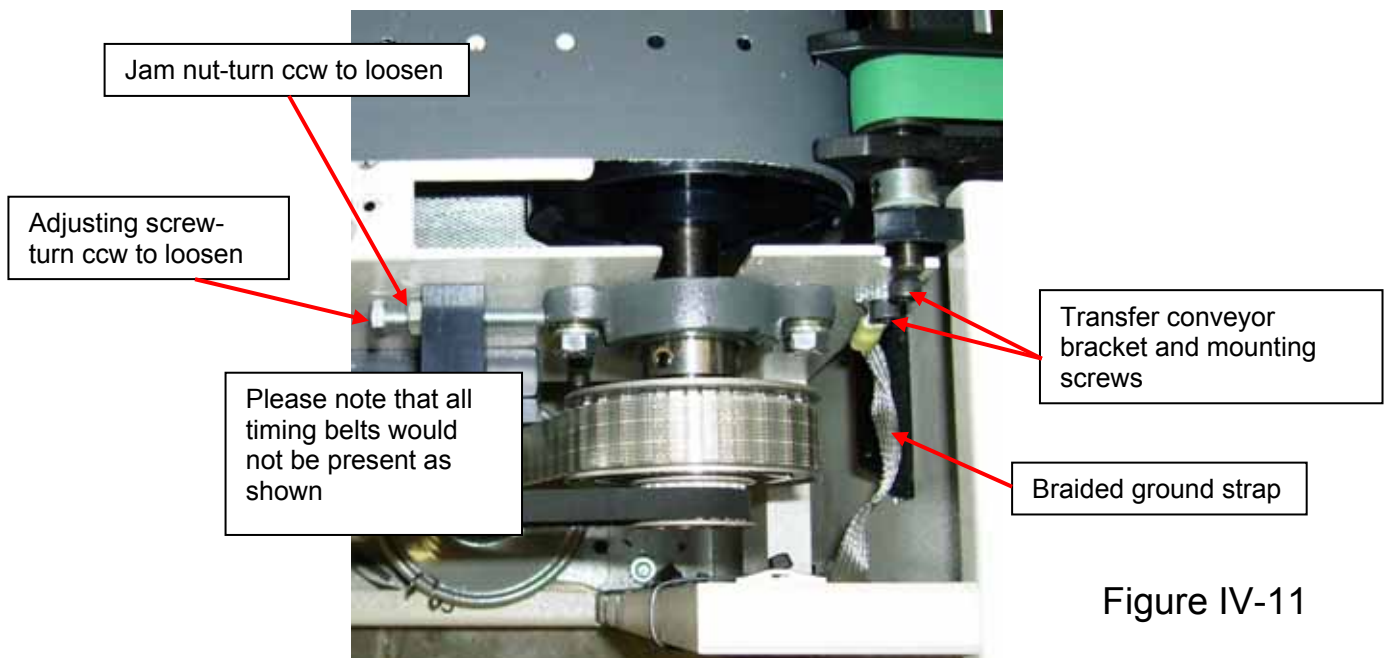

Figure IV-11
- c. Back off the jam nut (turn ccw) and the adjusting screw (turn ccw) of both attacher base mounted shaft positioners located on each end of the discharge conveyor pulley. See figure IV-11.